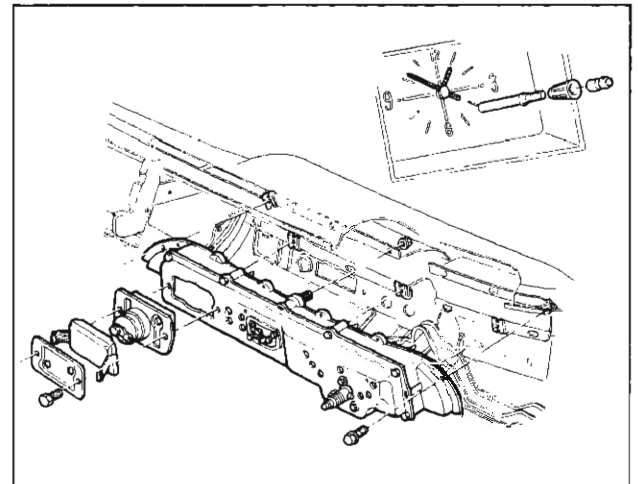

Fig. 52—Instrument Cluster Removal
Removal—Refer to Figure 52
1. Remove clock set shaft (fig. 52).